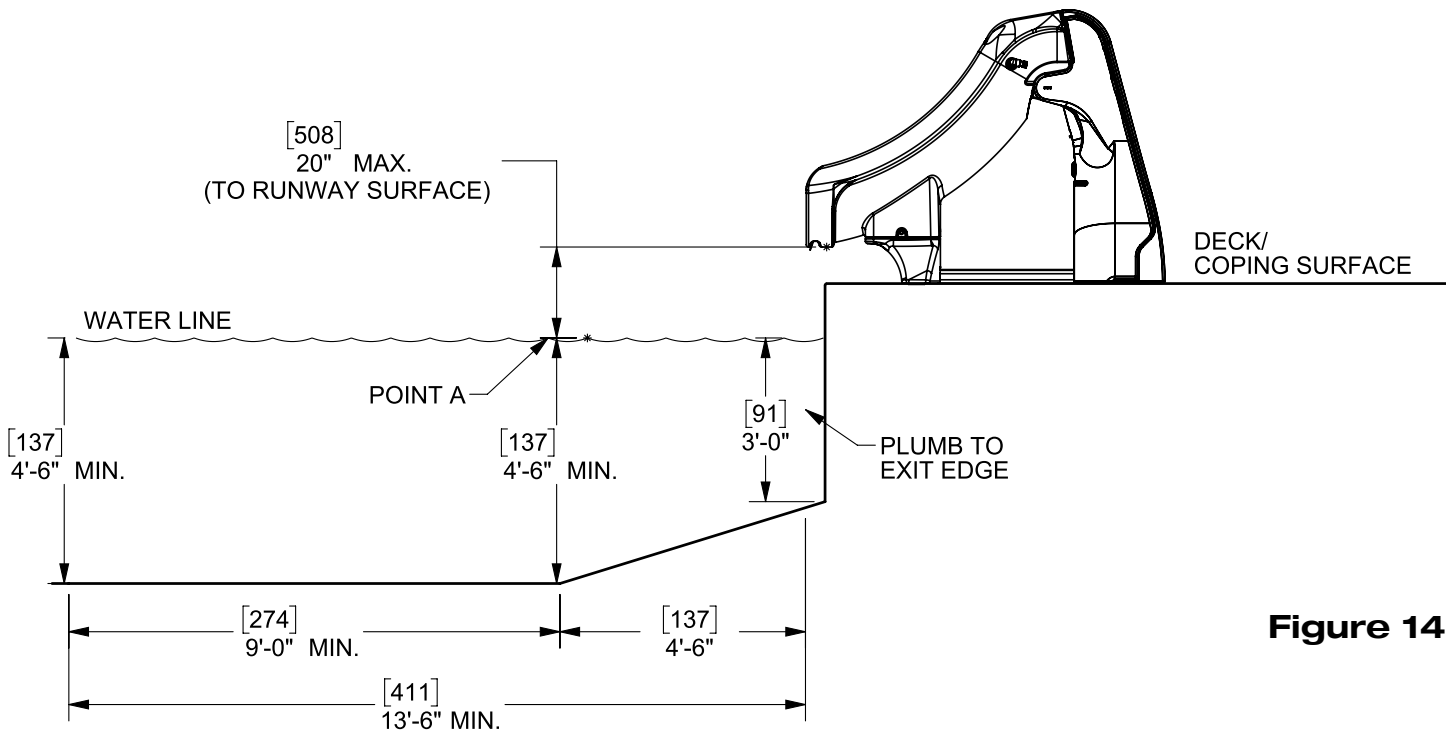

Figure 14
B. The slide exit runway surface shall not exceed 20" (51 cm) above the water surface as shown in **Figure 14**.
D. The minimum depth of water below the exit lip of the slide shall be 3' (91 cm) and increase to 4'6" (137 cm) at Pt. A, which is a distance of 4'6" (137 cm) from the exit lip of the slide as shown in **Figure 14**.
E. A minimum depth of 4'6" (137 cm) shall be maintained at a distance of 9' (274 cm) along the extended centerline of the slide from Pt. A, as shown in **Figure 14**.